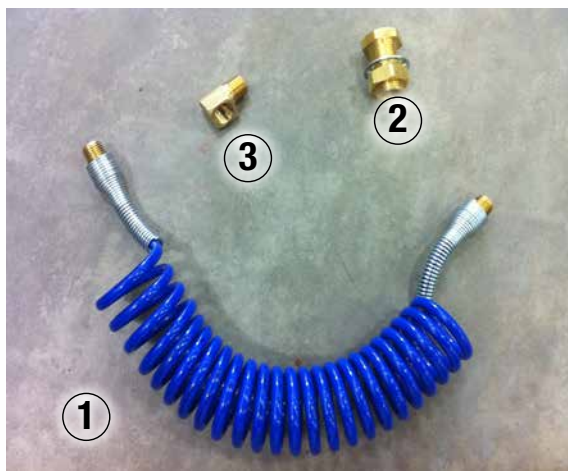

Figure 1: Air line coil kit
① 10 ft. coiled tube with 1/4" NPT male fit	1
② 1/4" NPT bulkhead female fitting	1
③ 1/4" x 1/4" 90° street elbow	1
④ 1/8" x 8" nylon tie (not pictured)	6
1. Verify air line coil kit contents (Figure 1), please note the nylon ties are not shown in photo. If any items are not included, please contact Fontaine Fifth Wheel customer service at 800.874.9780.